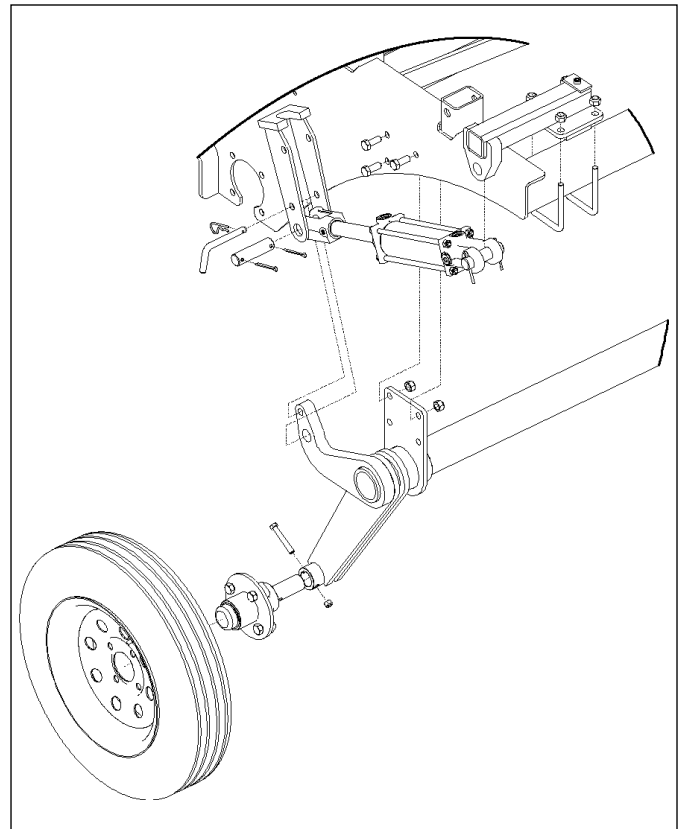
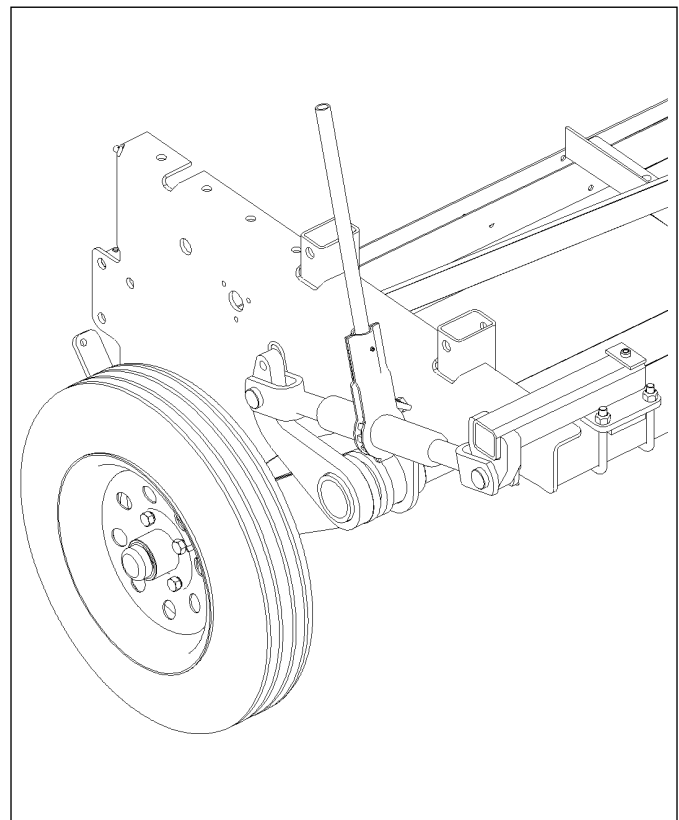

Figure 3-2: Rockshaft Installation
Figure 3-3: Ratchet Jack Installation
3. Install either the Hydraulic Cylinder, **See Figure 3-2.** or the Ratchet Jack, **See Figure 3-3.** between the two Lugs. If installing a Hydraulic Cylinder also attach the manual Transport Lock to the rod end of Cylinder with 1" x 3-5/8" Pin and 3/16 x 2 Cotter Pins.
4. Bent Pin and Hair Pin Cotter are used to Lock the Transport Lock in position during operation and transport. For operation the bent pin goes thru top hole on rockshaft cylinder lug and for transport bent pin goes under cylinder rod. **See Figure 3-2.**
2. Mount a Wheel and Tire Assembly onto each hub with 1/2-20 x 1" Wheel Bolt. **See Figure 3-2.**